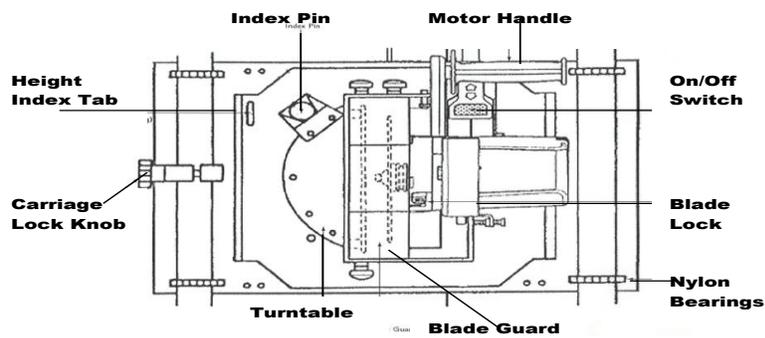

Figure 13: Carriage (Models C4, C5, H4, H5, and H6 Saws)
3. Hold the carriage securely while you loosen the red carriage lock (Figure 13 through Figure 18). Raise the carriage until the hole in the top of the carriage aligns with the eye in the end of the counterbalance cable, making sure the cable is **behind** the carriage. Then lock the carriage rip lock.